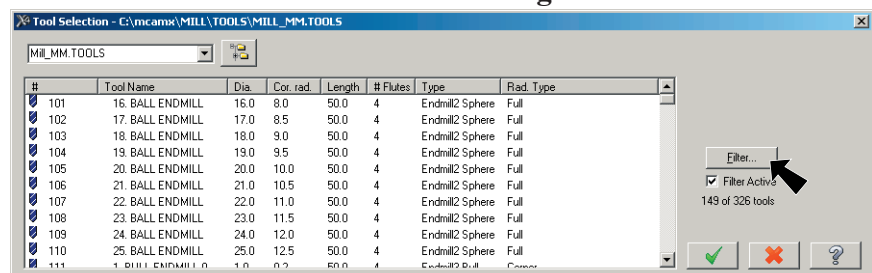

Fig. 27
Step 2. Click the **Filter** button, **Fig. 27**.